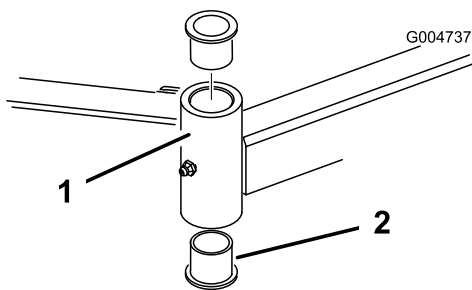

Figure 81
4. Insert a pin punch into the top or bottom of the mounting tube and drive the bushing out of the tube (Figure 81).